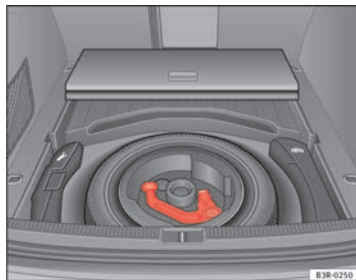

Fig. 162 Luggage compartment: Spare wheel with towing bracket
- Vehicles with a spare wheel ⇒ **fig. 162**.